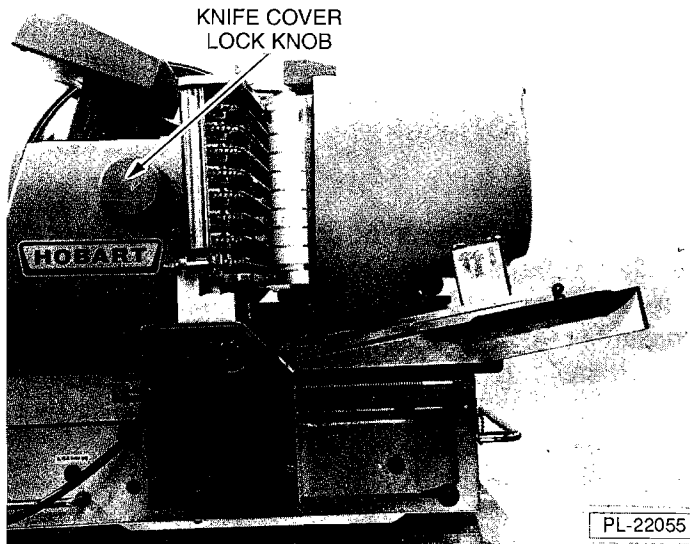
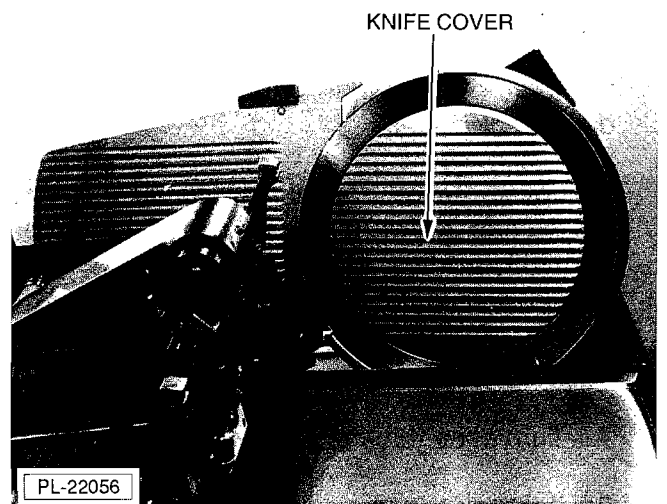

Fig. 40
Fig. 41
8. Unscrew knife cover lock knob (Fig. 40) and remove knife cover (Fig. 41).